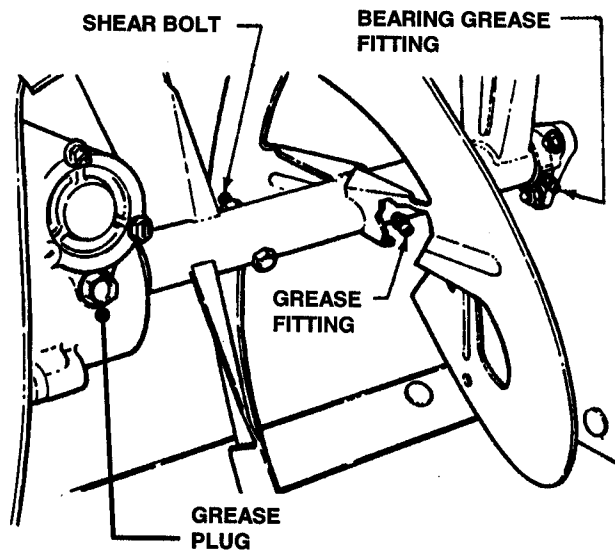

FIGURE 3.3
1. Before each season of operation, apply two shots of grease Snapper suggest using Benalene 900) from a grease gun into gear case. The grease plug for the gear case is located in front of the gear case. See Figure 3.3.
2. Before each season of operation, apply two shots of grease Snapper suggest using Benalene 900) from a grease gun into auger bearing. The grease fitting for the auger bearing is located on each end of the auger. See Figure 3.3.
3. Before each season of operation, apply two shots of general purpose grease from a grease gun into the auger shaft. The grease fitting for the auger shaft is located in the middle of each auger. Remove shear bolts and rotate auger to distribute grease evenly around shaft. Reinstall shear bolts and nuts. Tighten to 5 to 10 ft. lb. of torque. See Figure 3.3.